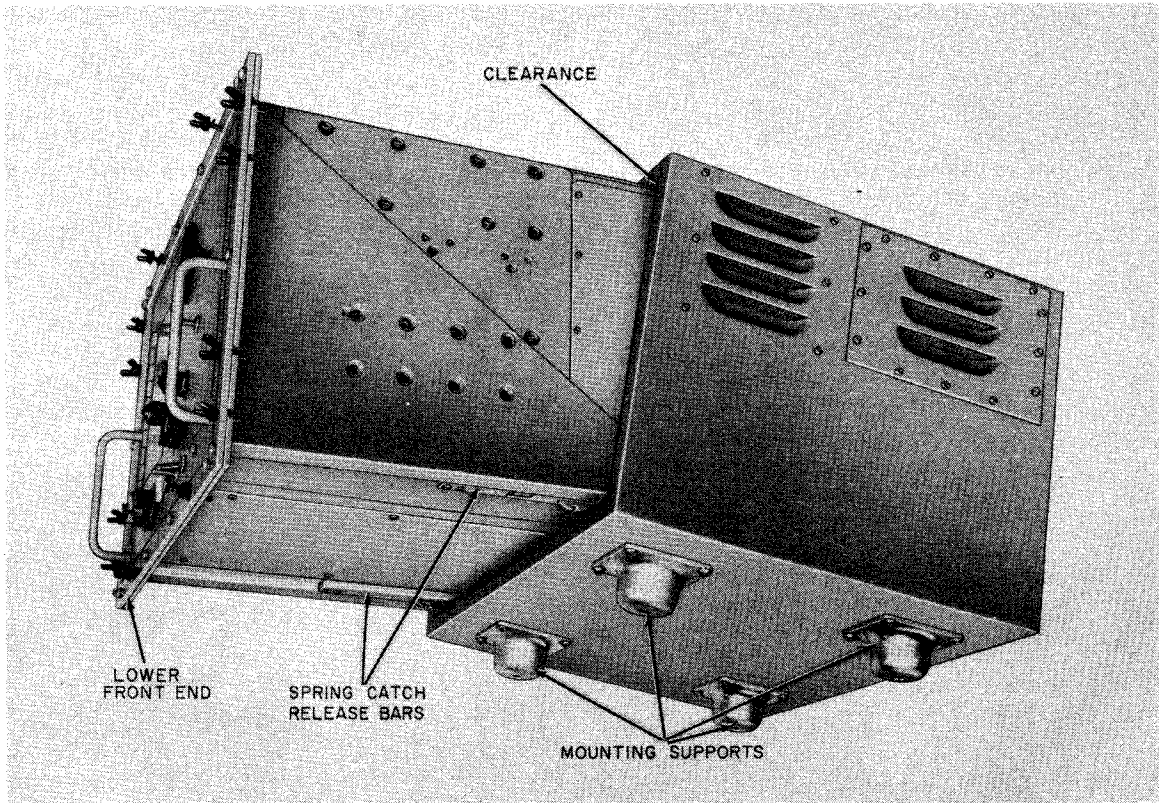

Figure 3-2. Method of Removing Main Chassis from Cabinet
e. Reach under the main chassis and release the springlocks by exerting an upward pressure on the spring catch release bars; see figure 3-2. Carefully pull the chassis out as far as it will come.
g. In order to remove the equipment from the cabinet, it is necessary to lift the rear end of the chassis so that the guide buttons come out of the slots. To accomplish this, tilt the chassis (see figure 3-2) so that the top rear portions of the assembly clear the cabinet. Then raise the chassis sufficiently to clear the guide buttons,